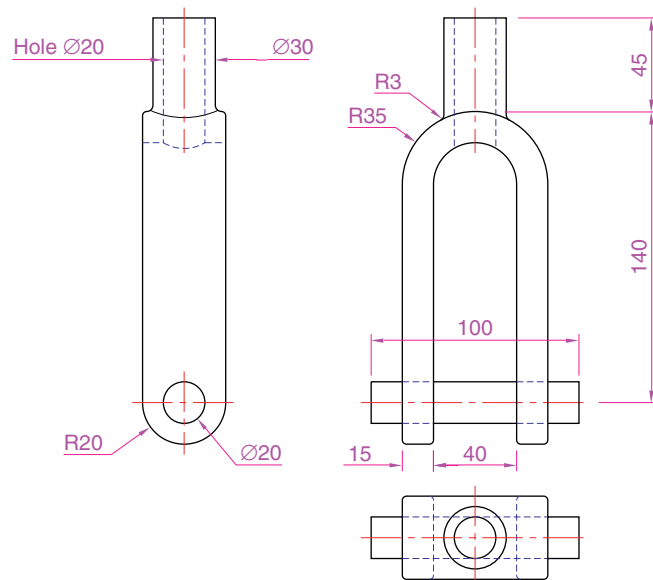

Fig. 17.37 Exercise 6
6. A fork connector and its rod are shown in a two-view projection in Fig. 17.37. Construct a 3D model drawing of the connector with its rod in position. Then add lighting to the scene, place in an **Isometric** viewing position, add materials to the model and render.